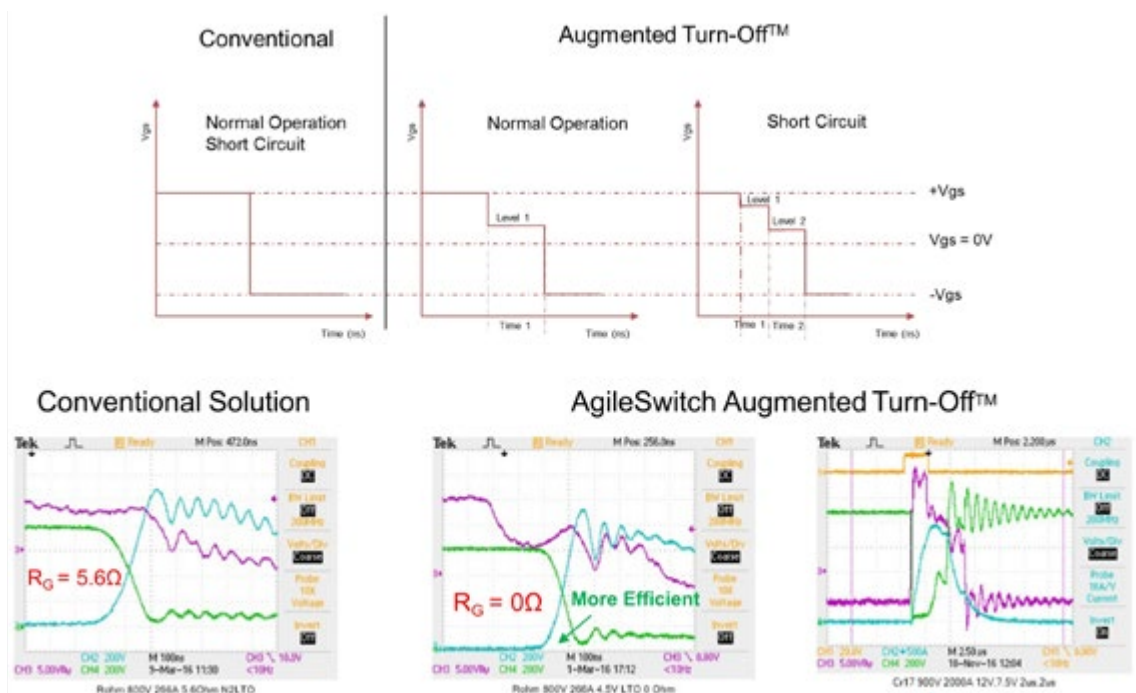

Figure 2: Explanation of Augmented Turn-Off
**Rob Weber:** Our Patented Augmented Switching™ (Figure 2) of multi-level switching results in the following primary benefits: